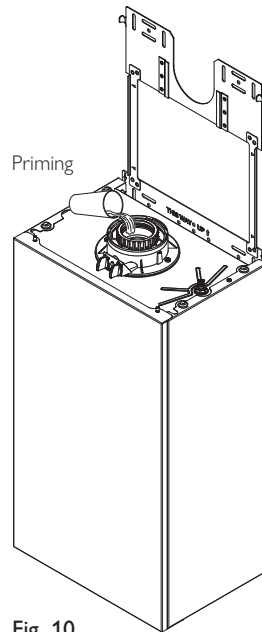

Fig. 10
2. Drill & plug the fixing points, secure the frame and hang the boiler on the lower plate (Fig. 10). Prime the boiler trap by pouring 300 ml of clean cold water into the central spigot. **Do not allow any water to spill into the air chamber.**